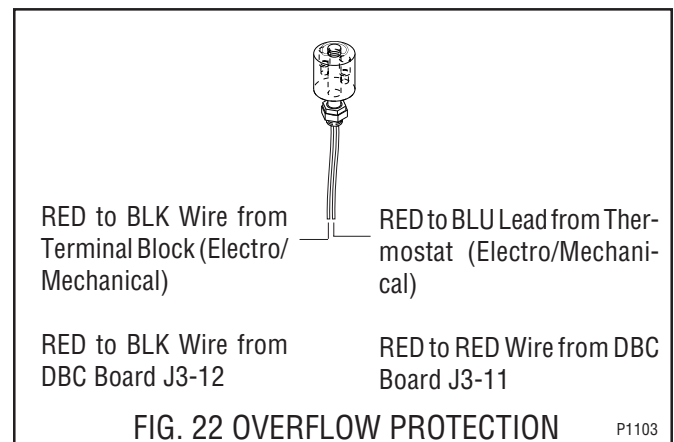

FIG. 22 OVERFLOW PROTECTION SWITCH TERMINALS
6. Refer to Fig. 22 when reconnecting wires.